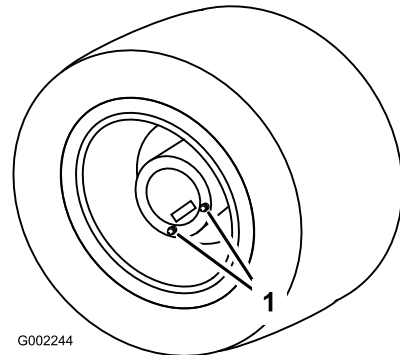

Figure 77
1. Position the sprayer on a level surface with the rear wheels positioned for draining (Figure 77).
3. Place a drain pan under the drain plugs and remove them from the wheel (Figure 77).